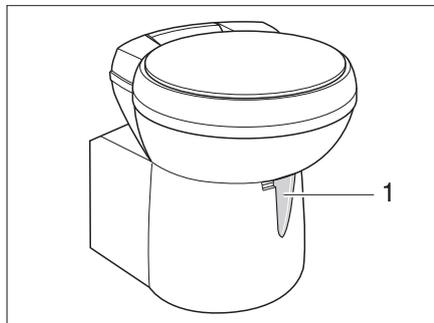
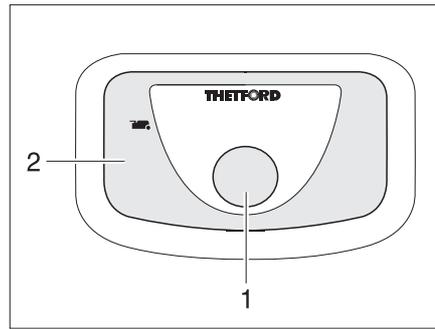

Fig. 157 Thetford toilet bowl, swivelling
Fig. 158 Flush button/indicator lamp
- Before flushing open the sliding trap of the Thetford toilet. To do this, push the slide lever (Fig. 157,1 or Fig. 158,1) in an anticlockwise direction.
- For flushing, press the blue flush button (Fig. 157,1 or Fig. 158,1).
The indicator lamp (Fig. 157,2 or Fig. 158,2) goes on whenever the Thetford cassette has to be emptied.
- Push the slide lever (Fig. 157,1 or Fig. 158,1) in a clockwise direction. The sliding trap is closed. To empty, the sliding trap in the Thetford toilet **must** be closed.